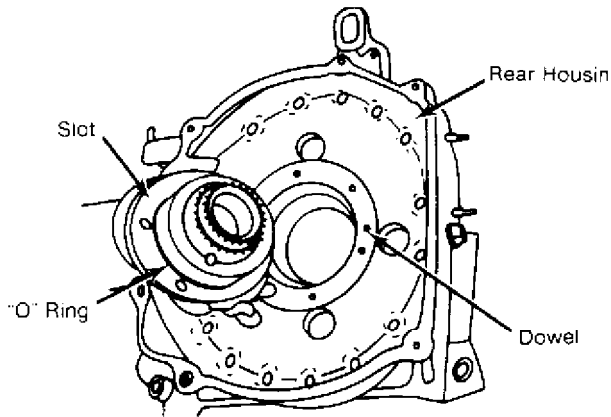

Fig. 9: Stationary Gear Slot & Dowel Alignment
10) Install new bearings while aligning tang bearing with a slot of stationary gear. Press bearing into gear until adapter of mandrel just contacts stationary gear flange. Install the stationary gear into the housing, aligning the slot of the gear flange with the dowel pin on the housing. See Fig. 9.